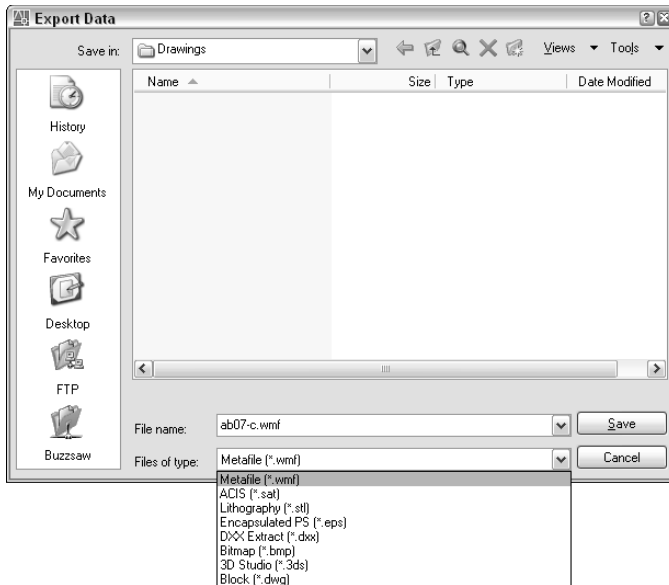

Figure 27-2: The Export Data dialog box.
1. Choose File ⇨ Export to open the Export Data dialog box, as shown in Figure 27-2.